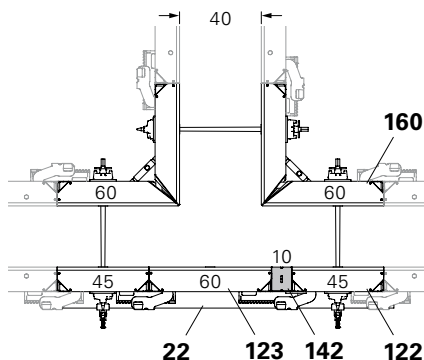

Fig. C5.07
- Wall thickness 40: Fig. C5.07